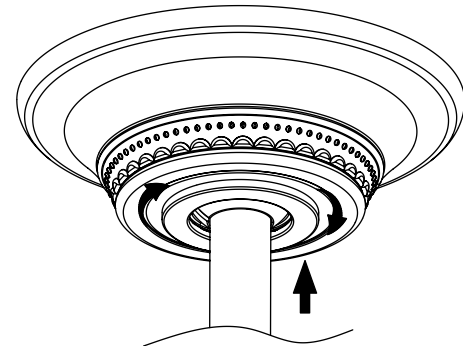

Fig. 19
Step 3. Securely attach and tighten the canopy hole cover over the shoulder screws in the mounting bracket utilizing the keyslot twist-lock feature.(Fig.19)